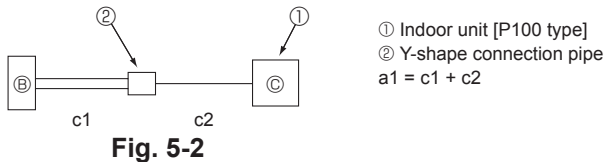

Fig. 5-2
*1 Although two refrigerant pipes are used between the branch box and the Y-shape connection pipe when connecting the P100 indoor unit, calculate the piping lengths using only the length of one pipe. (Fig. 5-2)